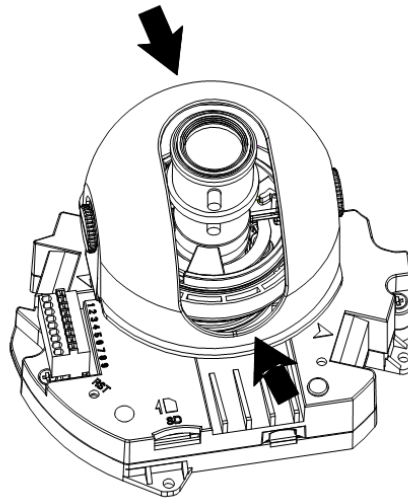

Figure 3-13
a) For the IR series product, you can skip current step and go the step b) directly. For the non-IR series product, push the port slightly to remove the decoration enclosure from the black plastic enclosure. See Figure 3-13.